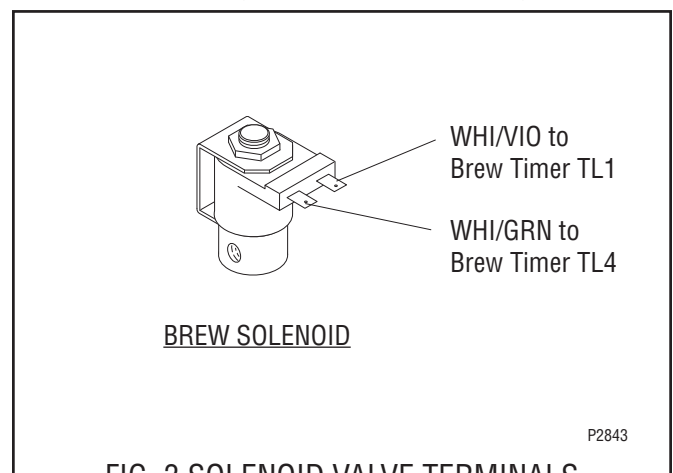

FIG. 3 SOLENOID VALVE TERMINALS P2843
10. Refer to the Fig. 3 when reconnecting the wires.